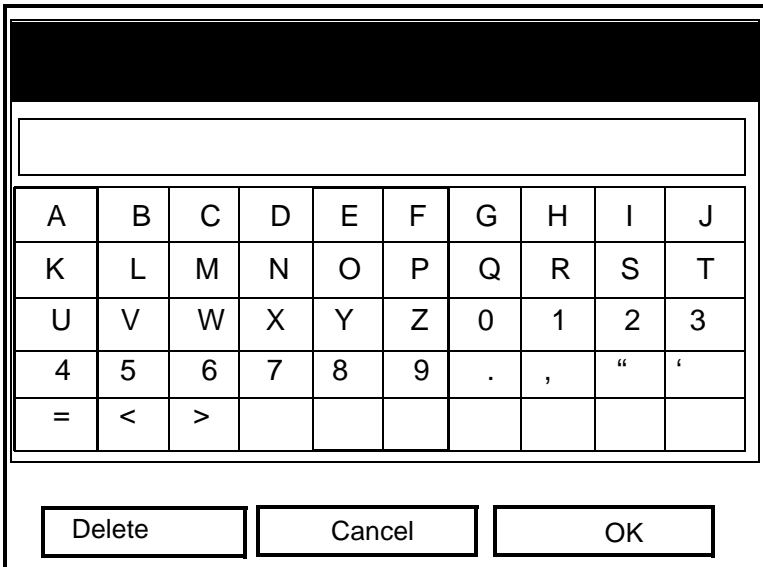

Figure 3-19: The Text Creation Window
- a. Press [ENTER] to open the text creation window, which appears similar to Figure 3-19 below.